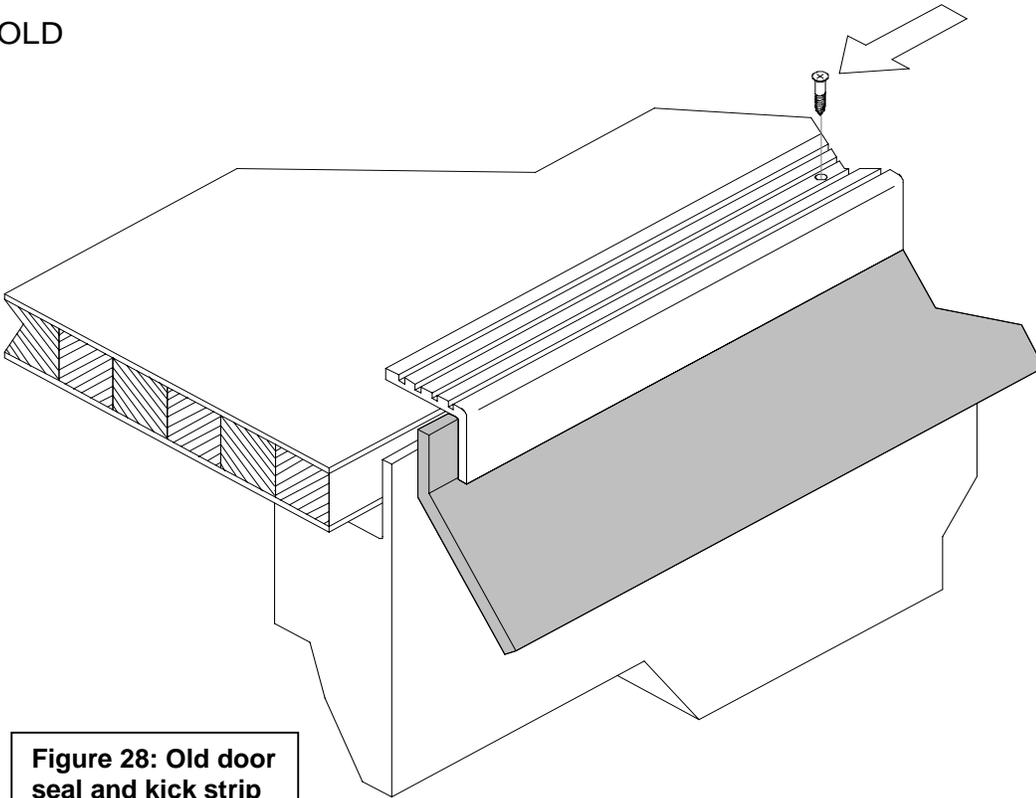

Figure 28: Old door seal and kick strip
- 3) Remove the door stops fore and aft (see Figure 28). Recover the stops.
- 4) Undo and remove the self-tapping screws securing the kick strip (see Figure 28, page 24). Remove the kick strip.